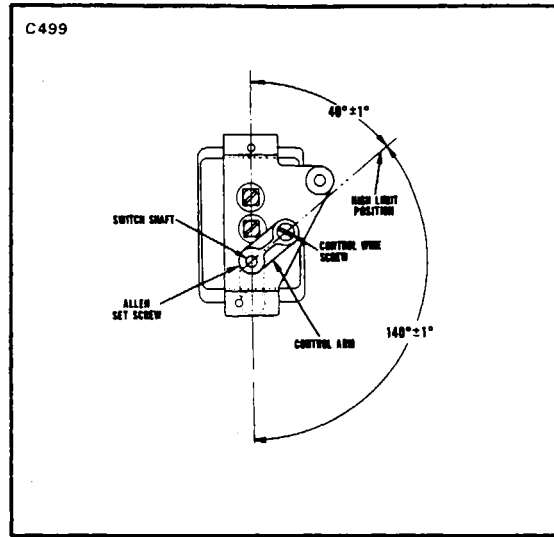

Figure 13-24. Top View - Duct Switch (Typical Control Lever Positions)
**13-95. DUCT SWITCH.** (Refer to Figure 13-24.) This switch is installed in the ventilating air duct downstream from the heater to sense the ventilating air outlet temperature. To select the desired cabin temperature, the switch may be adjusted manually from a high of  $250^{\circ}\text{F} \pm 10^{\circ}$  downward through a range of  $146^{\circ}\text{F} \pm 6^{\circ}$ . The switch has a differential of  $10^{\circ}\text{F} \pm 5^{\circ}$  at any given setting.
- h. Connect the duct switch control cable to the switch on the left side of the air distribution box. Adjust the cable so that when the control knob is full in against its stop, the control arm aligns with the vertical line of the switch. (Do not loosen the allen set screw that secures the arm to the switch shaft.) Pull the control knob out to ascertain that the control arm will have a  $140^{\circ} \pm 1^{\circ}$  travel to high heat position. (Refer to Figure 13-24.)